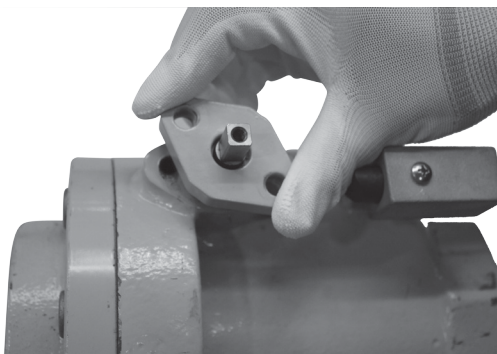
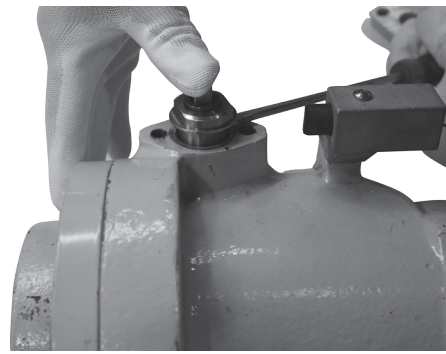

Figure 3. Turn gland retainer (step 3)
Figure 4. Pry out gland (step 5)
1. Remove the operating handle (key 18), fuse link assembly (key 22) and retainer (key 24) by unscrewing the bolt (key 23).
2. Take out the two gland bolts (key 33).
3. Turn the gland retainer (key 32) 1/2 turn counterclockwise, refer to Figure 3.
4. Remove the gland retainer from the gland (key 27).
5. Holding the valve's shaft firmly in place, pry out the gland with a screwdriver, Figure 4.